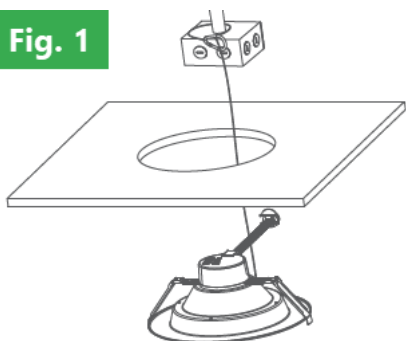

Fig. 2
3. Attach the carabiner safety clip to the existing fixture housing. (Fig. 2)
3. Insert the lamp conduit into the pre-installed J-box and wire to the power source (**black to line, white to common and green to ground**). For -10V dimming circuits, connect **grey to grey** and **purple to purple**. (Fig. 2)